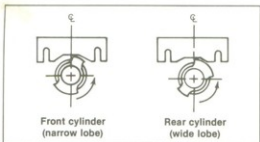

Figure 8-2. Trigger Rotor Position for Ignition Timing
The time of spark plug firing is when the leading edge of each lobe aligns approximately with the center of the sensor as shown in Figure 8-2.
1. Remove screw plug from timing inspection hole (9) in left side of crankcase. Then remove front push rod cover so that opening and closing of valve can be observed.
2. Turn engine in direction in which it runs until front piston is on compression stroke (just after front intake valve closes), and continue turning very slowly (less than 1/2 revolution) until piston top dead center timing mark (8) on flywheel is aligned in the inspection hole as shown.
3. With timer rotor fully retarded, the leading edge of the narrow rotor lobe should be aligned with the center of the sensor body as shown in Figure 8-2. At this point the retarded front cylinder ignition spark occurs.
5. Loosen timer plate screws (5) just enough to shift timer plate (4) using a screwdriver in notch (6), so